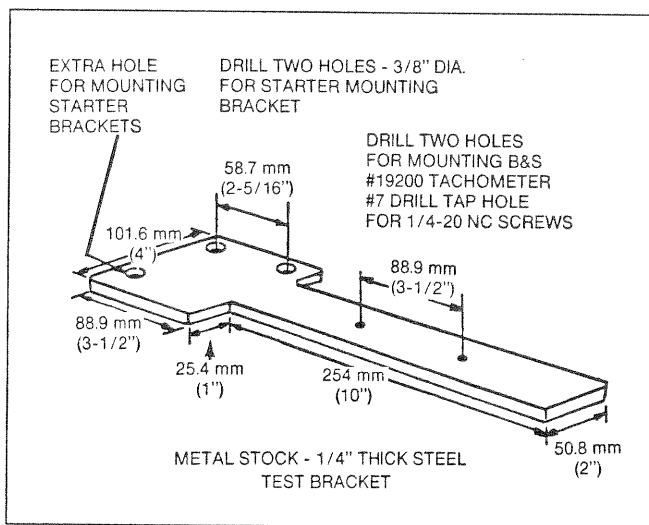

Figure 49. Starter Motor Test Bracket
- A starter motor test bracket can be made, if desired, as shown in Figure 49.